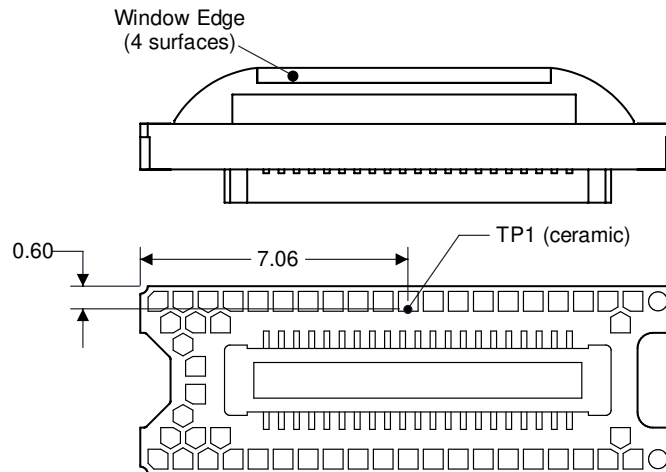

图 7-1. DMD Thermal Test Point
- $T_{\text{CERAMIC}}$  = Measured ceramic temperature ( $^{\circ}\text{C}$ ), TP1 location in 图 7-1
- $Q_{\text{ARRAY}}$  = Total DMD power; electrical plus absorbed (calculated) (W)
- $Q_{\text{ELECTRICAL}}$  = Nominal DMD electrical power dissipation (W)